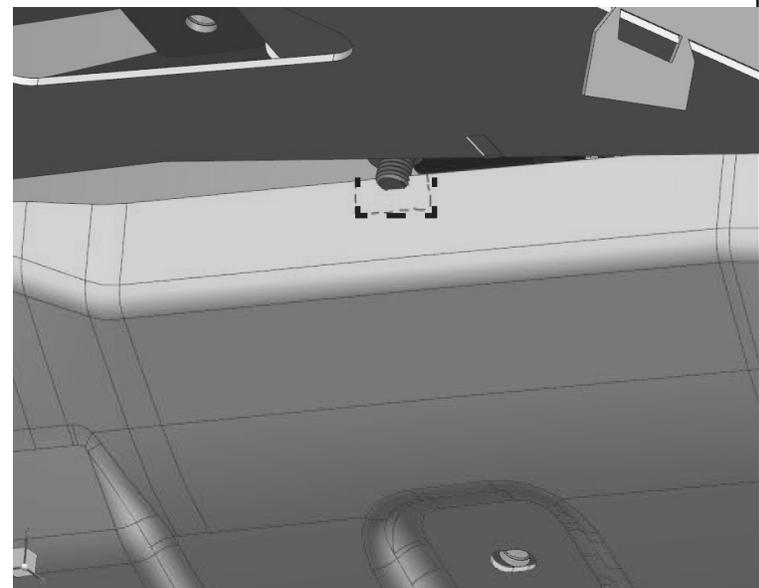

Figure 11
25. If equipped, reinstall skid plate. **NOTE: The skid plate will need to be cut in the specified location (shown in Figure 11) in order to not interfere with the bumper hardware.**